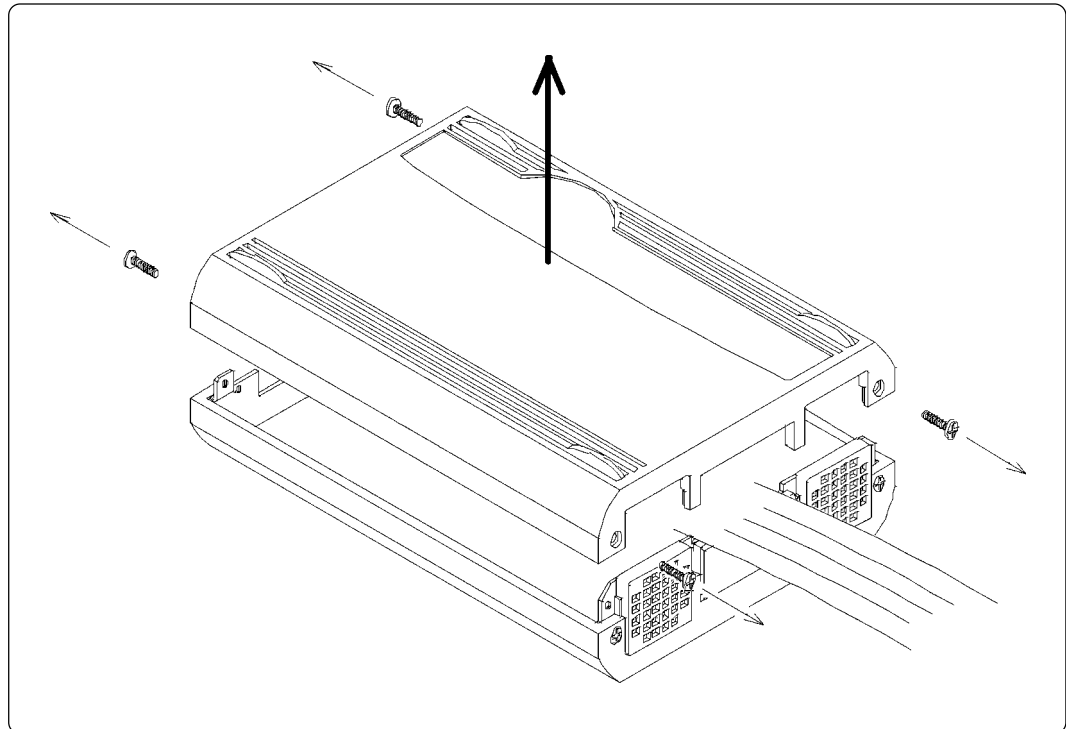

Figure 3.5 Removing the upper cover
Figures 3.5 and 3.6 show how to replace the oscillator circuit boards. For the position of the oscillator circuit board, see Figure 2.2 of M37900T2-RPD-E User's Manual.
- (1) Remove the four screws of both sides of this product and lift off the upper cover (see Figure 3.5).